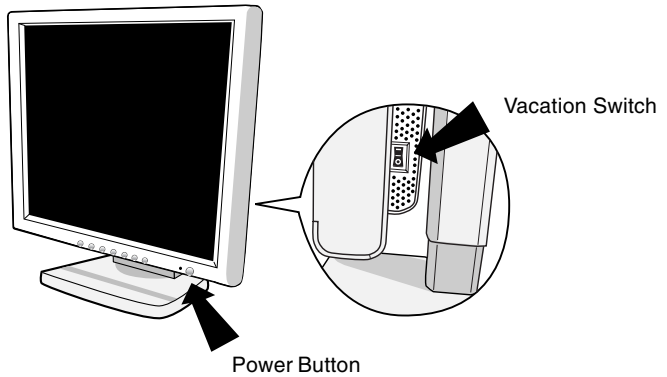

Figure E.1
5. Check the Vacation Switch on the right hand side of the monitor is in the ON position. Turn on the monitor with the Power Button (**Figure E.1**) and the computer.